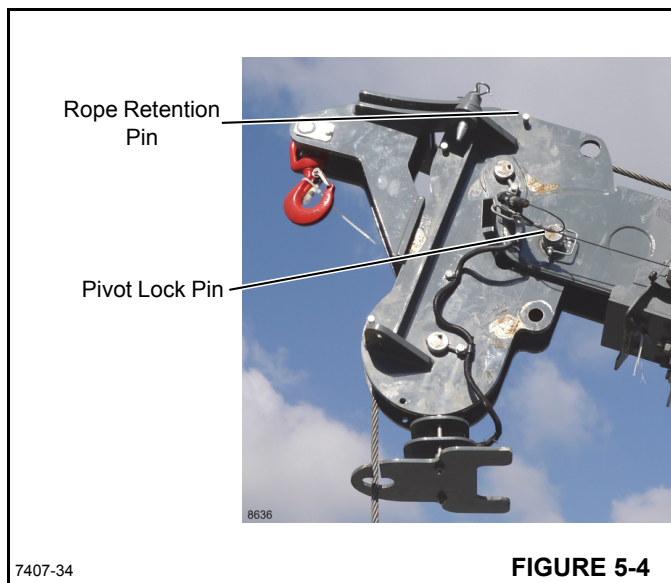
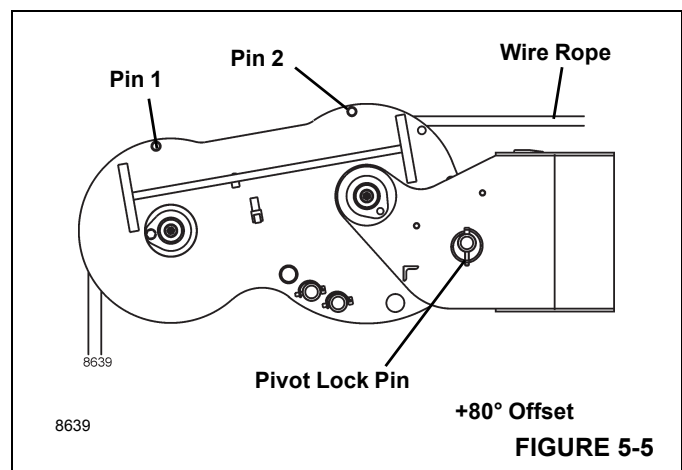

FIGURE 5-4
FIGURE 5-5
3. Remove the retaining clip from the rope retention pin, remove the rope retention pin from the top of the boom head (Figure 5-4).
4. Remove the lynch pin and the pivot lock pin (Figure 5-4).
6. Install the rope retention pin and retaining clip into the top of the boom head (Figure 5-4).
7. When offsetting boom head (Figure 5-5) to +80° run rope between pin #2 and sheave wheel. Install pin #1 in the lower hole.
8. After installing the rope retention pin and retaining clip into the boom head (Figure 5-5). Check that the wire rope is not contacting retention pin at the top of the boom head.
3. Remove the retaining clip and rope retention pin from the top of the boom head (Figure 5-4).
7. Install the rope retention pin and retaining clip into the top of the boom head (See Figure 5-4 and Figure 5-5).